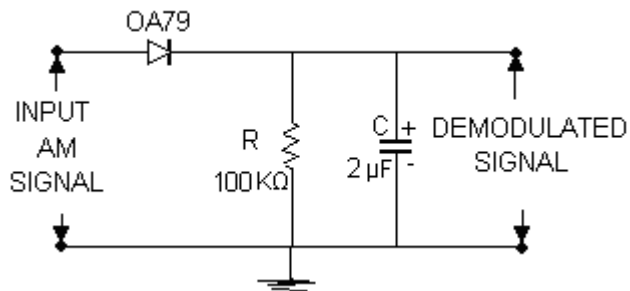

Fig.2. AM demodulator
9. Connect the circuit diagram as shown in Fig.2.